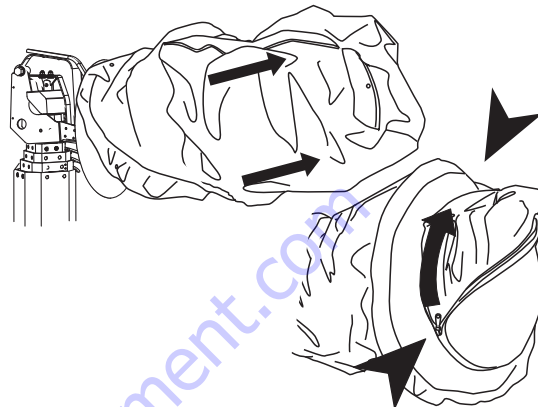

Figure 14. Removing the Protective Cover
- b. Remove and fold protective cover into itself at the top of the balloon and zip the cover (Figure 14).